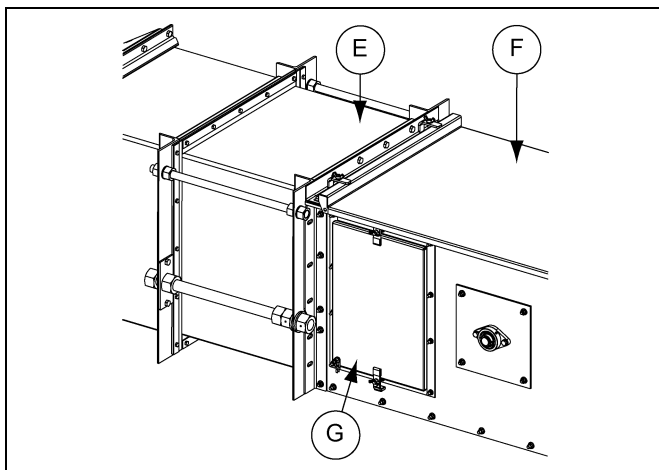

Figure 4C
2. Standard intermediate sections do not have a direction in which they bolt to other intermediate sections. The cover channels (C) connect intermediate sections on both ends.
3. Two (2) inspection intermediate sections (F) are included on each installation. They should be assembled at the head and tail. The inspection holes should be oriented closest to the head or tail. (See Figure 4C.)